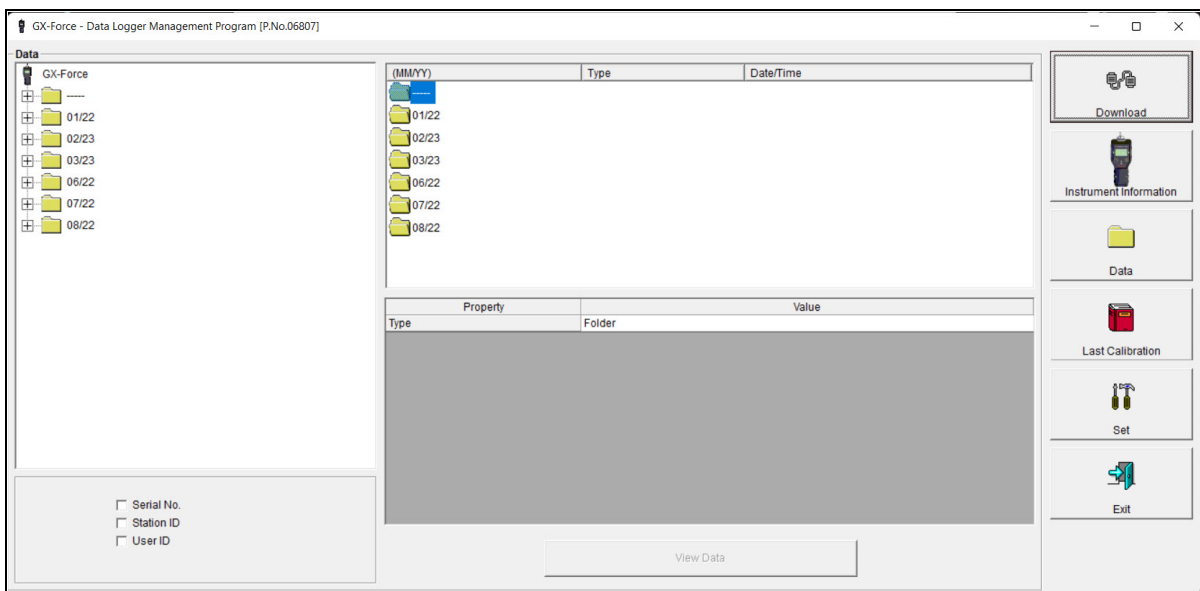

Figure 11: Data Window
2. Click the selection box or boxes in the lower left frame to organize the data as desired. The data may be organized by one or more of the following parameters: serial number, station ID, or user ID. If none of the boxes are selected, then the data is organized as shown in Figure 11.